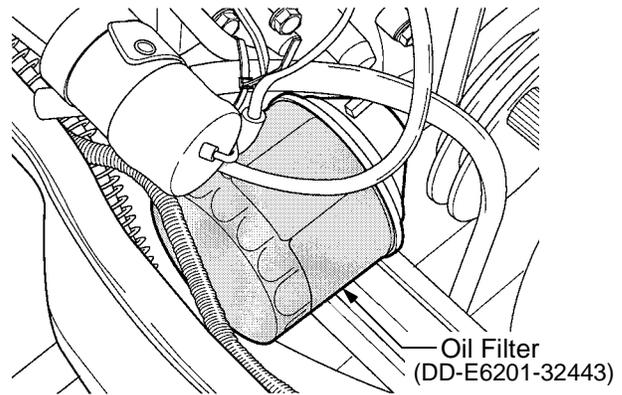

Figure 59
- Move the drain pan beneath the filter, then remove the filter by turning it counterclockwise using a filter wrench to loosen. See Figure 59.